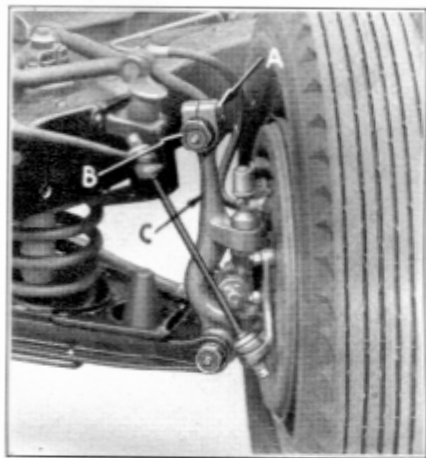

Figure 34
Loosen spindle support lock nut (A), Figure 34, and turn eccentric bushing (B) clockwise to increase caster and counterclockwise to decrease caster. One complete turn is the equivalent of $\frac{1}{2}^{\circ}$. The caster is adjusted by the fore and aft movement of the spindle support (C) on the eccentric bushing (B).